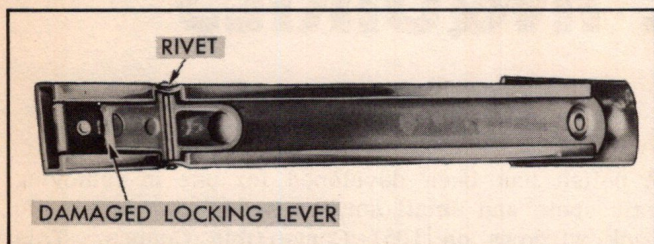

Fig. 1 Removing Damaged Locking Lever
3. Remove the damaged locking lever from the inner channel by removing the rivet. (See Fig. 1.)